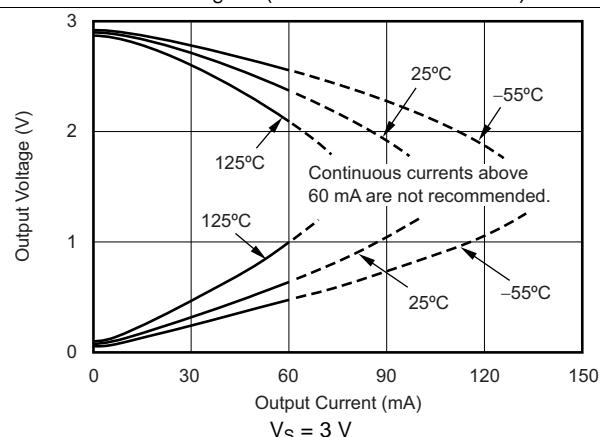

Figure 20. Output Voltage Swing vs Output Current
(1) See Figure 20.
TI does not recommend running a continuous dc current in excess of ± 60 mA. See Figure 20 in the *Typical Characteristics* section.